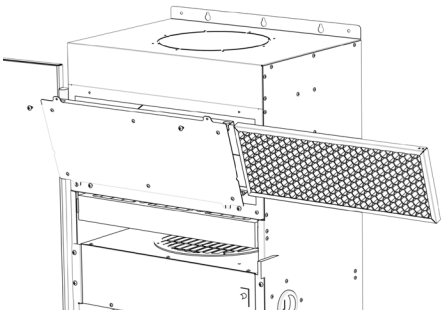

Fig. 6 Slide out PCO filter.
- 2. Slide the PCO filter out of the rack and replace with the new filter. See Fig. 6.